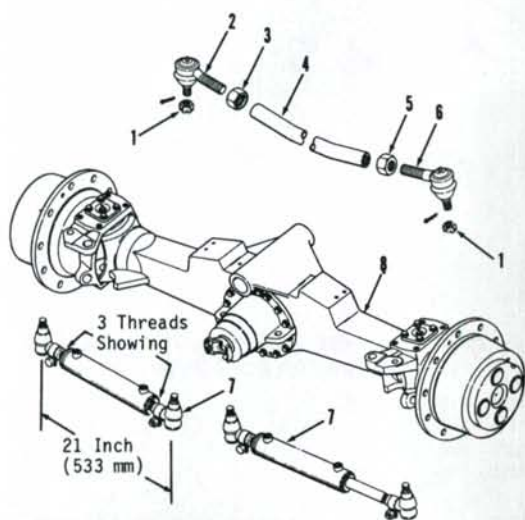

Fig. 5—Front drive axle, tie rod and steering cylinders removed from tractor.
8. Due to the closeness between tie rod and front support, removal of tie rod and toe-in adjustment can be accomplished only after removal of front drive axle assembly as outlined in paragraph 6. Disassembly of tie rod is obvious after removal and reference to Fig. 5. Toe-in should be adjusted to 0-0.5 inch (0-12.7 mm). One full turn of a tie rod end (2 or 6) will change toe-in $\frac{3}{8}$ inch (9.5 mm). Make sure bow of tie rod tube (4) is down.